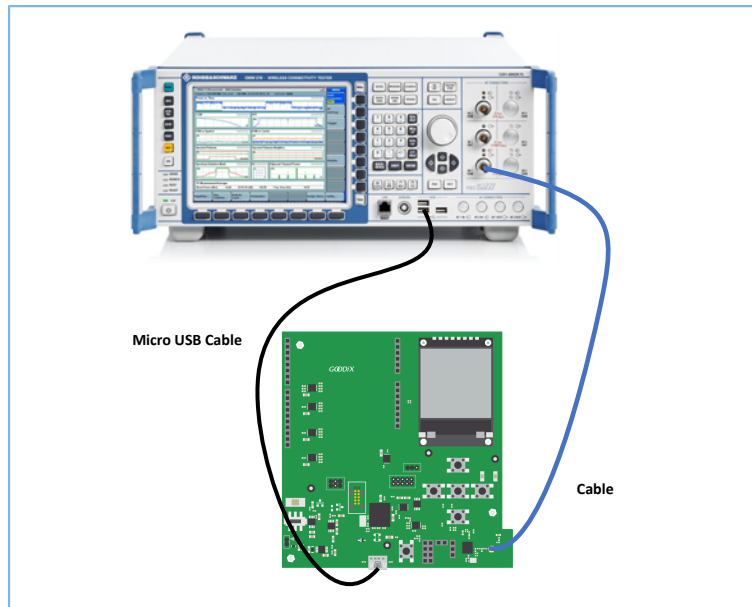

Figure 3-9 Hardware connection in an R&S®CMW500 test environment
2. Connect the R&S®CMW500 USB port to the UART port on the GR5515 SK Board with a Micro USB cable. Connect the RF COM port on the R&S®CMW500 to the RF port on the SK Board with a cable. The connection diagram is displayed in the Figure 3-9.